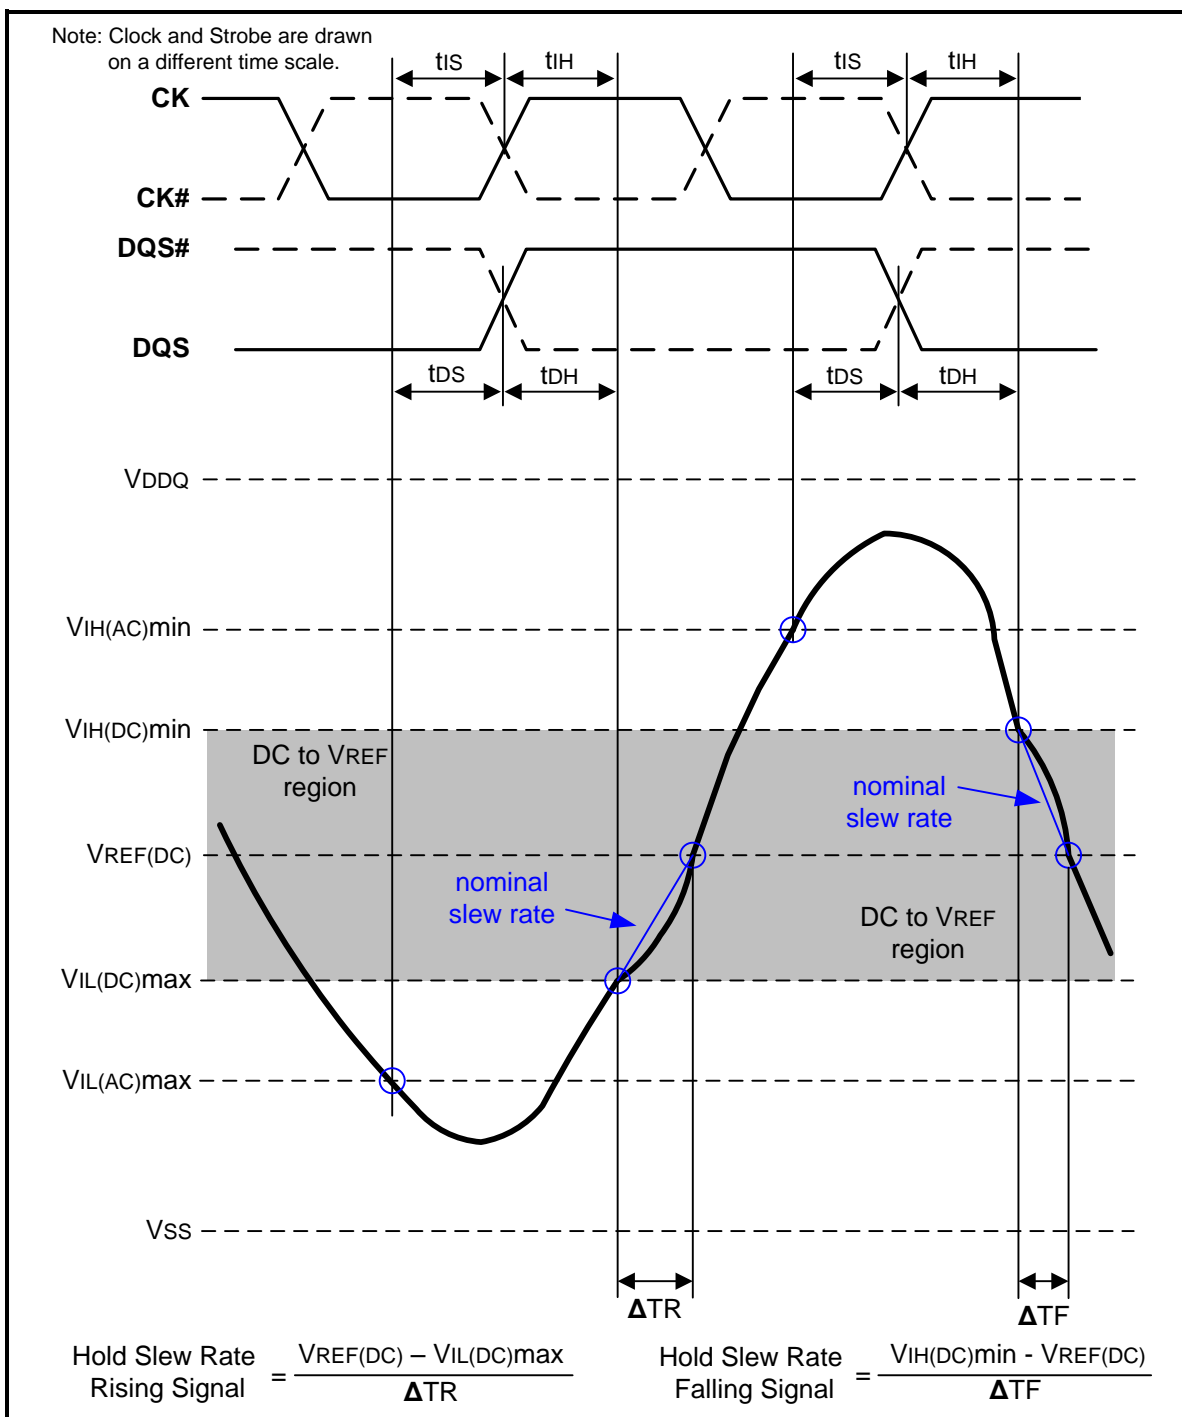
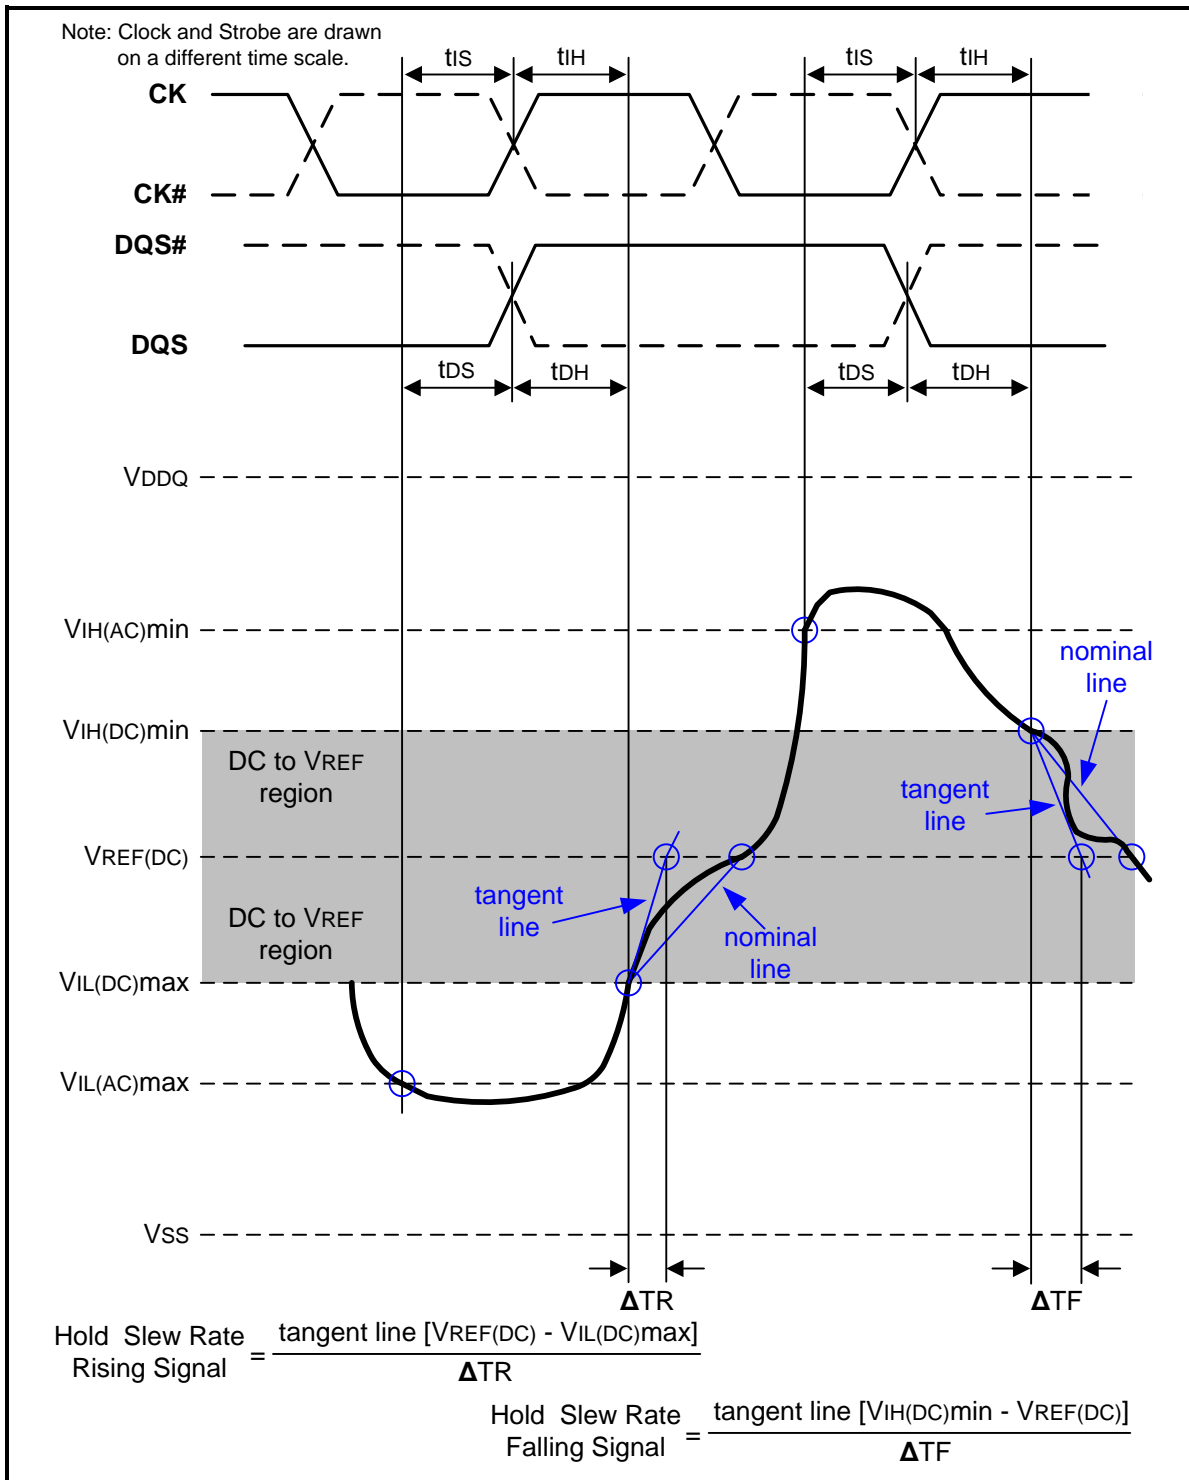

Figure 108 – Illustration of nominal slew rate for hold time t_{DH} (for DQ with respect to strobe) and t_{IH} (for ADD/CMD with respect to clock)
Figure 110 – Illustration of tangent line for for hold time tDH (for DQ with respect to strobe) and tIH (for ADD/CMD with respect to clock)
Hold (tIH) nominal slew rate for a rising signal is defined as the slew rate between the last crossing of VIL(DC)max and the first crossing of VREF(DC). Hold (tIH) nominal slew rate for a falling signal is defined as the slew rate between the last crossing of VIH(DC)min and the first crossing of VREF(DC). If the actual signal is always later than the nominal slew rate line between shaded 'DC to VREF(DC) region', use nominal slew rate for derating value (see Figure 108). If the actual signal is earlier than the nominal slew rate line anywhere between shaded 'DC to VREF(DC) region', the slew rate of a tangent line to the actual signal from the DC level to VREF(DC) level is used for derating value (see Figure 110).
Hold (tDH) nominal slew rate for a rising signal is defined as the slew rate between the last crossing of VIL(DC)max and the first crossing of VREF(DC). Hold (tDH) nominal slew rate for a falling signal is defined as the slew rate between the last crossing of VIH(DC)min and the first crossing of VREF(DC) (see Figure 108). If the actual signal is always later than the nominal slew rate line between shaded 'DC level to VREF(DC) region', use nominal slew rate for derating value. If the actual signal is earlier than the nominal slew rate line anywhere between shaded 'DC to VREF(DC) region', the slew rate of a tangent line to the actual signal from the DC level to VREF(DC) level is used for derating value (see Figure 110).